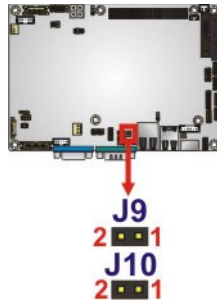

Figure 4-7: COM 3 RS-422 and RS-485 Termination Select Jumper Location
- Jumper Location:** See **Figure 4-7**